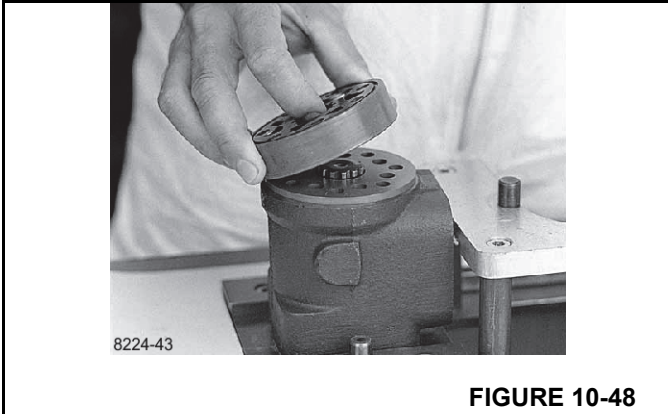

FIGURE 10-48
24. Grease the two O-rings with petroleum jelly and place them in the two grooves in the gear rim. Fit the gearwheel and rim on the cardan shaft (Figure 10-48).